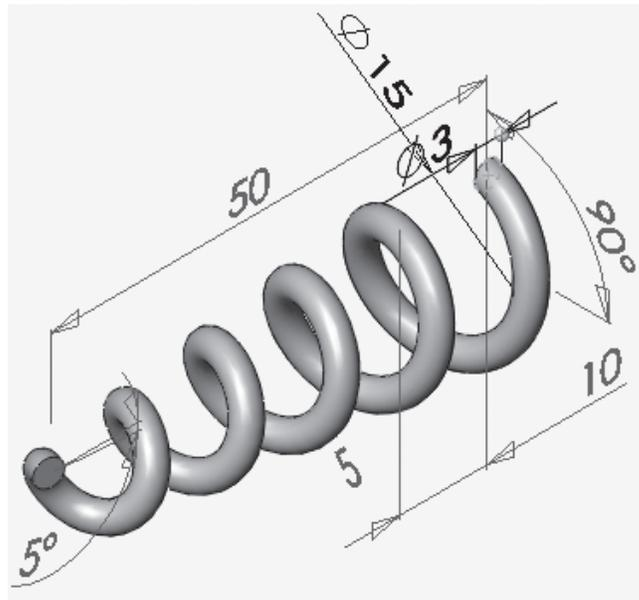

Figure 4.20
- 12** Create the CAD model of the helical spring shown in Figure 4.20. All dimensions are in centimeters.